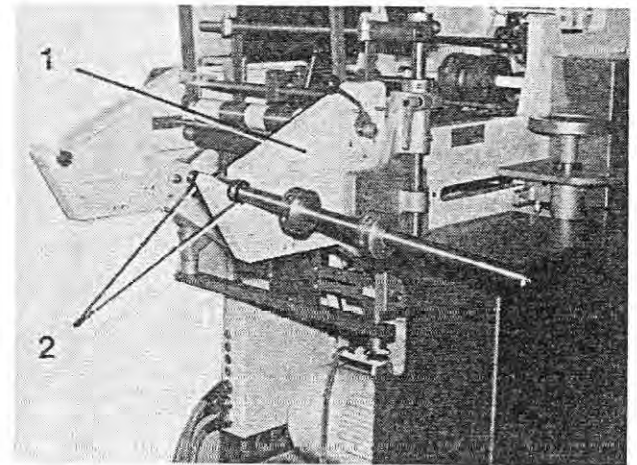

Fig. 90
3. Remove the dispenser axle from the frame bearings and place it in the bearing of the front frame wall in such a way that the frame wall (Figure 90/1) is between the stop rings (Figure 90/2). If necessary, pull the paper roll off the dispenser axle.